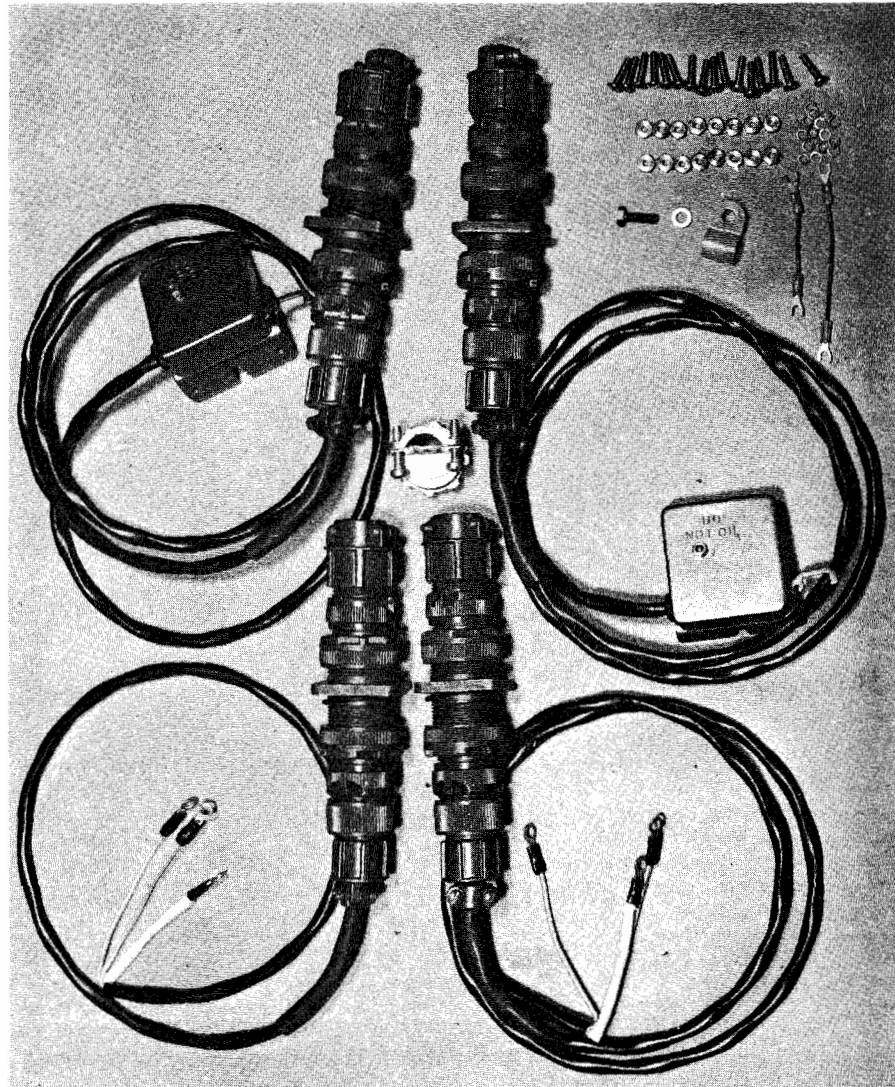

Figure 1.2 NIK Modification Kit for AN/UGC-6/16/UG Teletypewriter
3. The NIK Modification Kit is shown in Figure 1.2. The modifications are performed at the equipment site by field personnel. A list of tools required to perform the modification, a list of parts in the modification kit, and complete instructions for the installation of the kit are outlined in this manual.